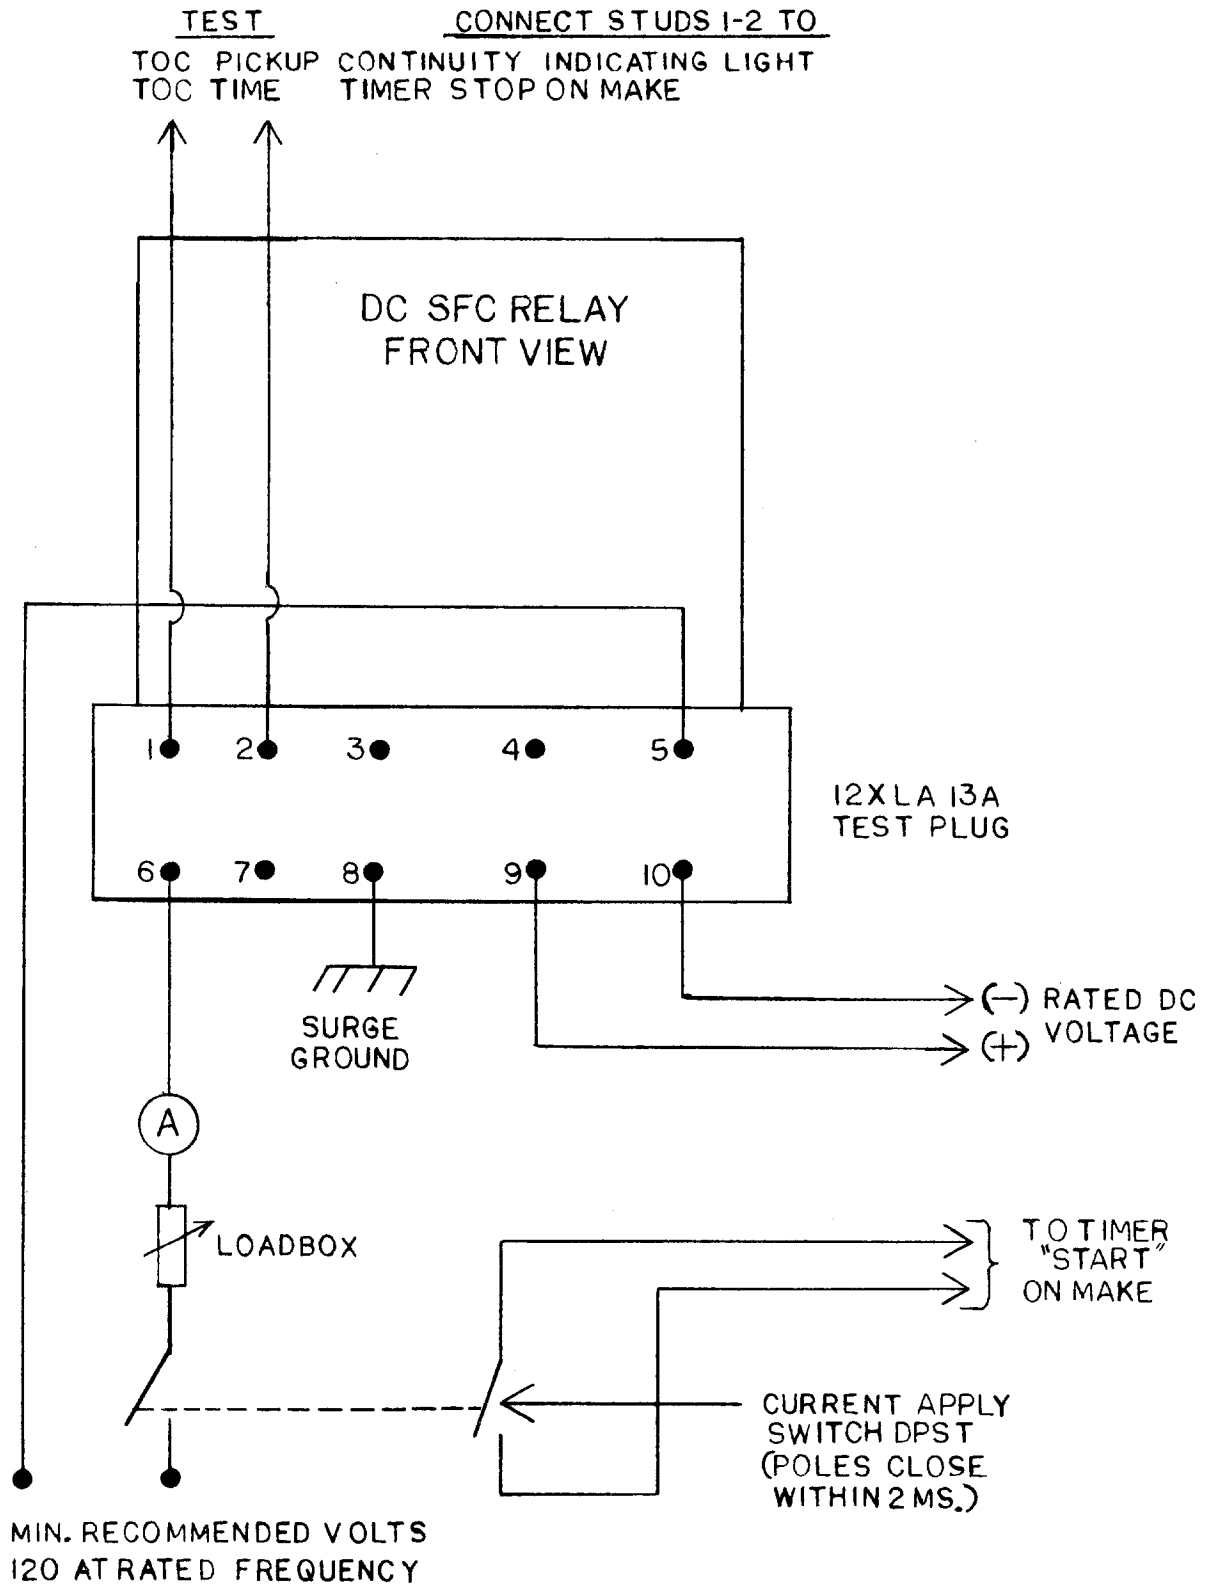

Figure 17 (0269A3032) Test Connections for SFC151D(-)A
1. Connect the relay as shown in Fig. 17. Use a source of 120 volts rms or more at rated frequency with current limited by a series resistor. This is the current supply to the relay and must be stable within 1/2 percent (.5%) of set value.
1. Connect relay as in Fig. 17 using a switch so that current may be suddenly applied. The timer should be arranged so that application of current to the relay starts the timer and trip circuit contact closure stops the timer.